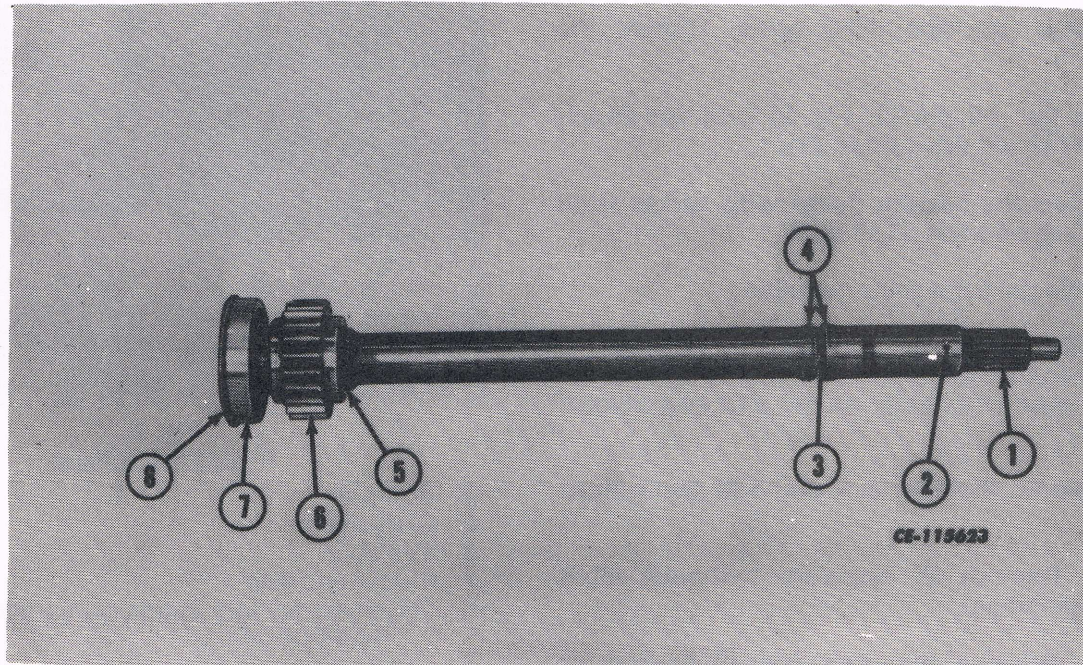

Fig. 3
4. Remove the bearing flange with gasket from the IPTO drive shaft. (1, Fig. 3)